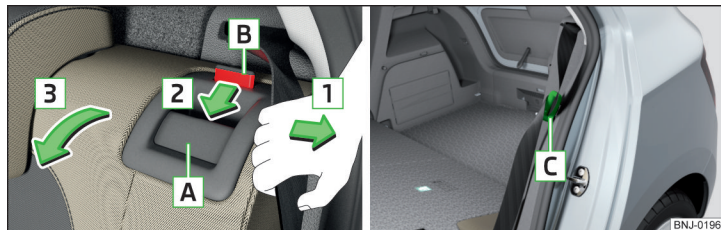

Fig. 65 Fold seat backrest forwards / standby position of the seat belt
- Pull the outer seat belt to the side panel in the direction of arrow **1** » Fig. 65.
The buckle latch of the outer seat belts **C** » Fig. 65 can be inserted into the side panel.